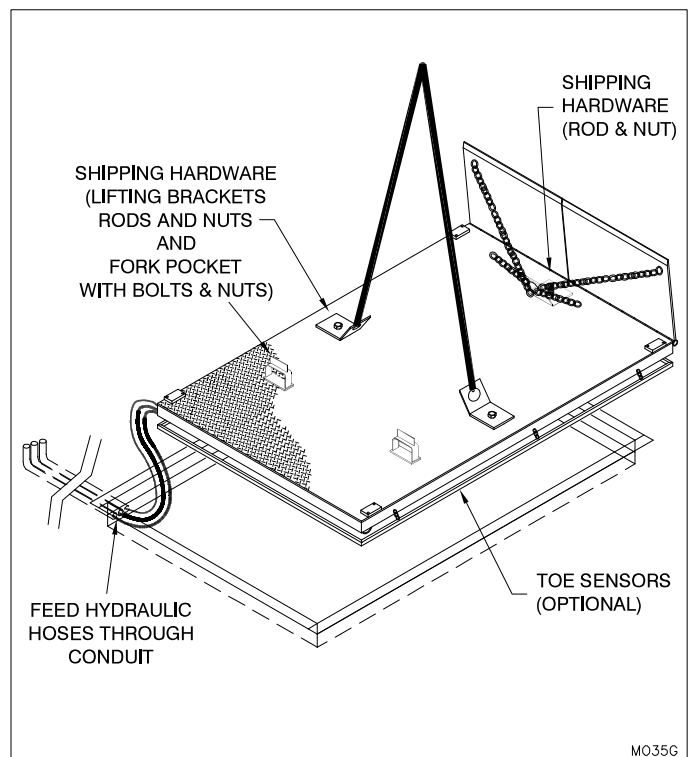

Figure 3: Hoisting the Dock Lift
3. Move the Dock Lift to the installation location. (See "Figure 3: Hoisting the Dock Lift" on page 4)
If the unit is to be installed into a pit, ensure that it is equipped with optional toe sensors (See "Figure 3: Hoisting the Dock Lift" on page 4). If there are not toe sensors the unit cannot be installed in a pit. There is a toe pinch hazard due to the straight toe guards. Ensure drain, if required, is in place prior to installing the Dock Lift. While lowering into the pit, at the same time, feed the hydraulic hose through the conduit from inside the pit towards the power unit.